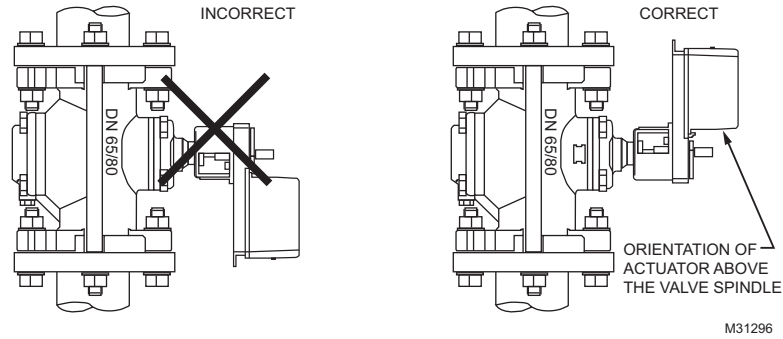

Fig. 2. Vertical pipe installation.
5. Valve must be mounted with the actuator/bracket above pipe center line. Do not install the valve with the stem below horizontal or upside down without NEMA 3, 4, or 4X actuator enclosure to prevent actuator damage due to condensation or leaks. See Fig. 2 and 3.